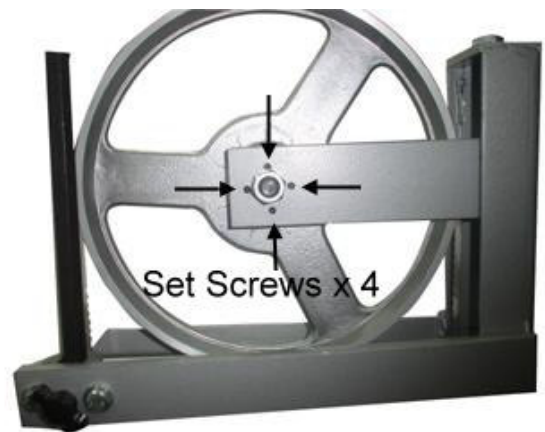

Fig.22
2. Each setscrew moves portion of wheel in or out to adjust the upper, lower and left side of the wheel as shown in (Fig. 22)